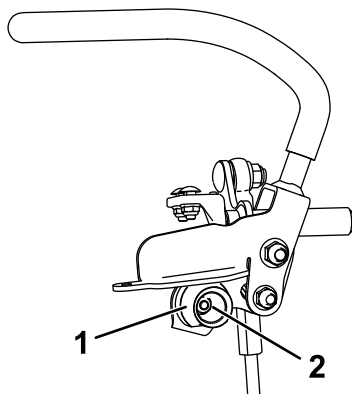

Figure 47
6. Loosen the nut holding the cam (Figure 47).